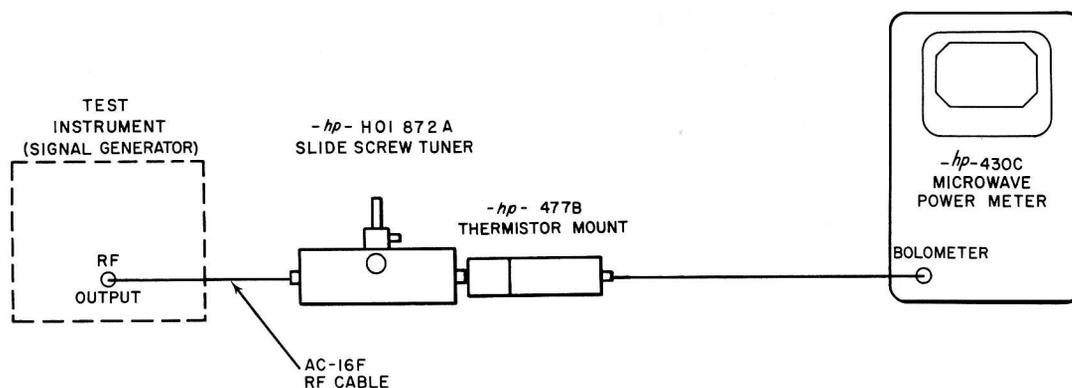

Figure 10-2. Signal Generator Attenuator Calibration
1) Connect the equipment as shown in Figure 10-2.